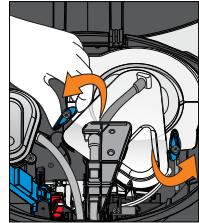

Figure 35
7. Unlock the turn knobs which hold down the SmartFlo™ SF-1 Water Cartridge (Figure 35)